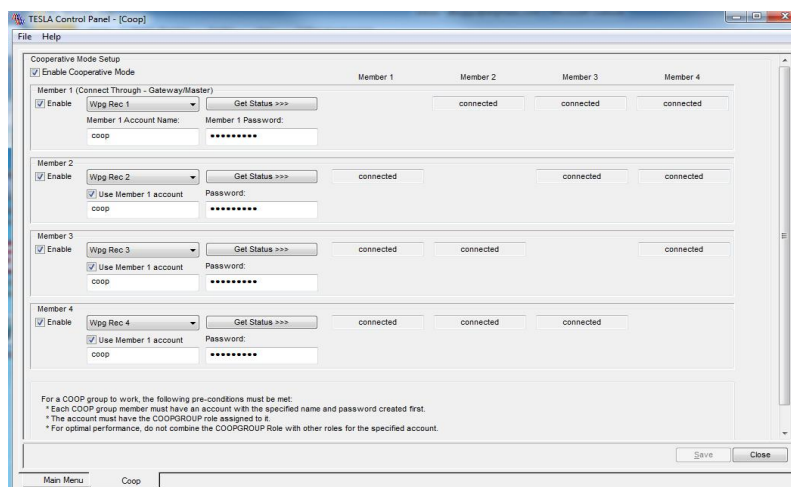

Figure 15.2: Cooperative Mode Setup Screen
- Select the *Coop* screen by double-clicking on *Coop* in the *Main Menu* tree. See the *Coop* screen in Figure 15.2.
- c. Enter valid login credentials for each IED (see Table 15.6 for details). Figure 15.2 shows an example with each member using the default account. If all members are to use the same login credentials select the “Use Member 1 Account” check-box.
The *Get Status* button beside the member recorder names in Figure 15.2 initiates a status check of the communications between the member recorders. It can be used at any time.